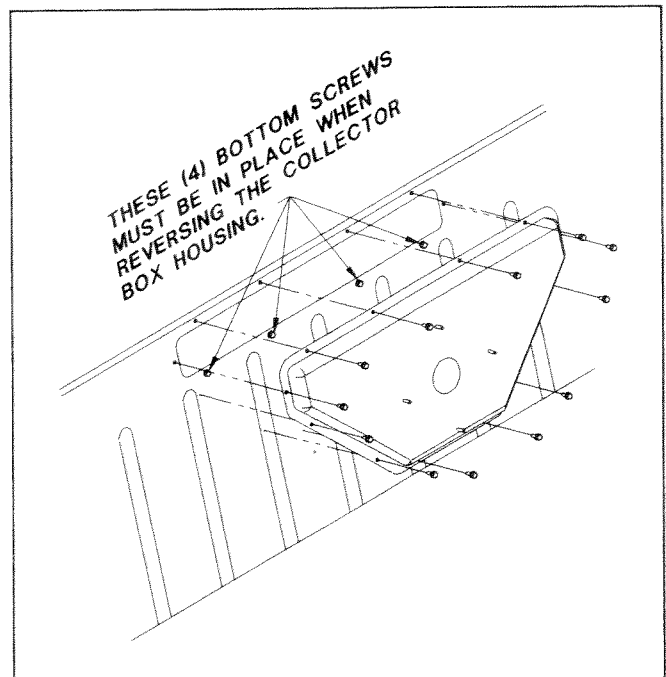

Figure 27. Four Screws Below Collector Box Outlet.
3. Install four screws below heat exchanger collector box outlet on new draft inducer side of furnace. See Figure 27.
4. Install draft inducer collector box on new draft inducer side of furnace using screws saved during removal. See Figure 27. Carefully align gasket.